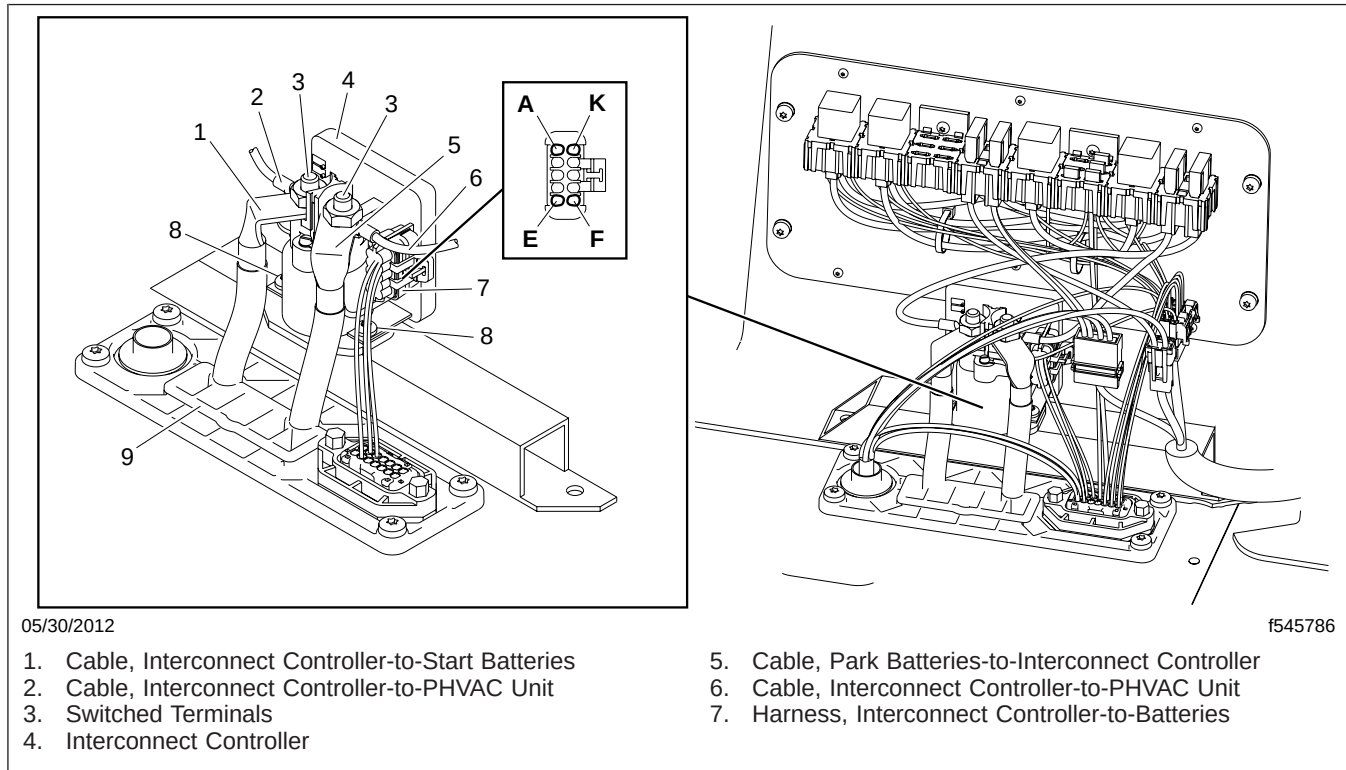

Fig. 3, Interconnect Controller Installation (from July 2011)
- 12.3 Remove the terminal nuts from the interconnect controller, and disconnect the two wires going to the electrical center. See Fig. 3.